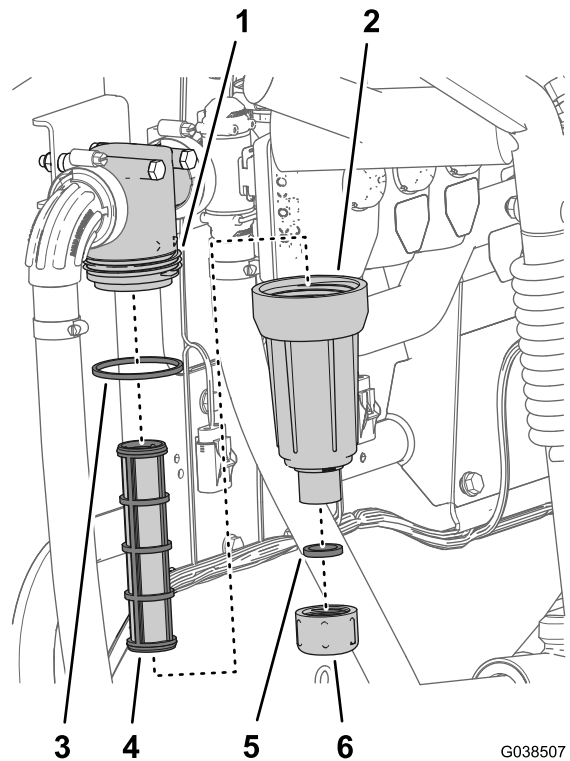

Figure 110
2. Align a drain pan under the pressure filter (Figure 110).
3. Rotate the drain cap counterclockwise and remove it from the bowl of the pressure filter (Figure 110).
4. Rotate the bowl counterclockwise and remove it from its filter head (Figure 110).
5. Remove the old pressure-filter element (Figure 110).
6. Check the O-ring for the drain cap (located at the threaded fitting of the bowl) and the O-ring for the bowl for damage and wear (Figure 110).
7. Install the new pressure-filter element into the filter head (Figure 110).
8. Install the bowl onto the filter head and tighten by hand (Figure 110).
9. Install the cap onto the bowl and tighten by hand (Figure 110).